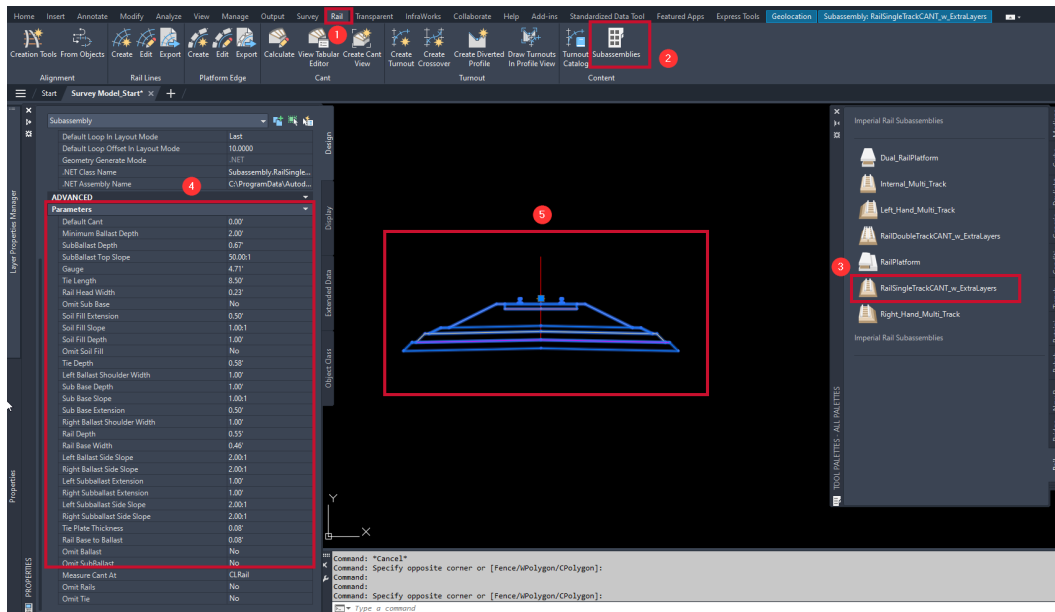

Figure 4.23 – Steps to create the main rail assembly
- After selecting the subassembly we wish to import, we'll move over to our **Properties** dialog box and update the parameters as we had done with our roadway subassemblies as seen in *Figure 4.23*.
*Figure 4.23* shows all the preceding steps: